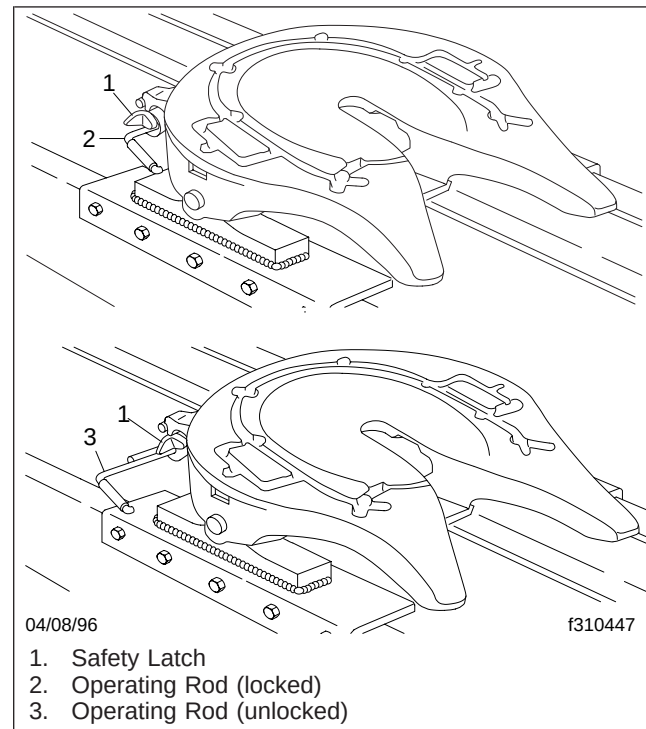

Fig. 10.11, Simplex Kingpin Locking Mechanism, Locking and Unlocking
pin to move out of the mechanism. With the jaw in the fully open position, the operating rod drops out of the lockset position, and the fifth wheel is ready for coupling. See **Fig. 10.11**.
6. *If equipped with a manual kingpin lock release:* Release the kingpin lock mechanism by raising the safety latch to the rear and pulling the lock operating rod out and up into the lockset position. See Fig. 10.11. The offset of the lock control upper rod should bottom against the plate casting above the hole. If the operating rod cannot be pulled to the lockset position, back the tractor slightly to release the kingpin force against the jaw.
If equipped with an air-operated kingpin lock release: Pull the air-release knob on the dash. *From outside the cab,* visually check that the operating rod has bottomed out against the plate casting above the hole. See Fig. 10.11. If the operating rod isn't in the unlocked position, back the tractor slightly to release the kingpin force against the jaw.